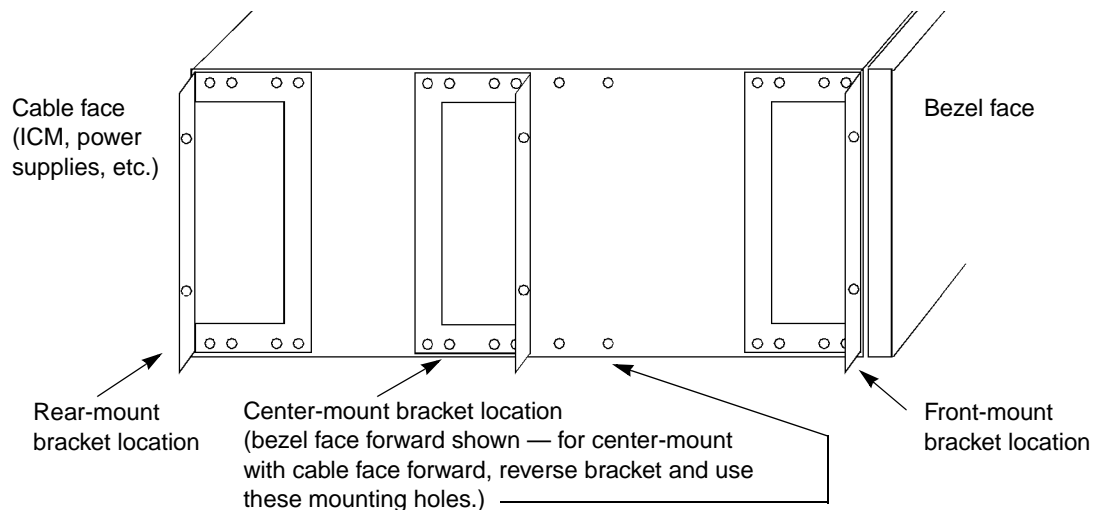

Figure 4-7. Bracket Locations (19-inch Brackets Shown)
4. Use the flathead Phillips screws supplied in the bracket kit to attach the brackets to each side of the SA 600 at the locations illustrated in **Figure 4-7**.